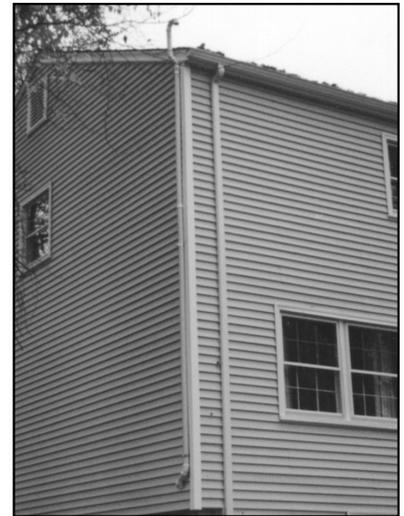

Figure 9
3. The vent line must be routed in a manner that allows the system to exhaust above the level of the roof (see Fig. 9).